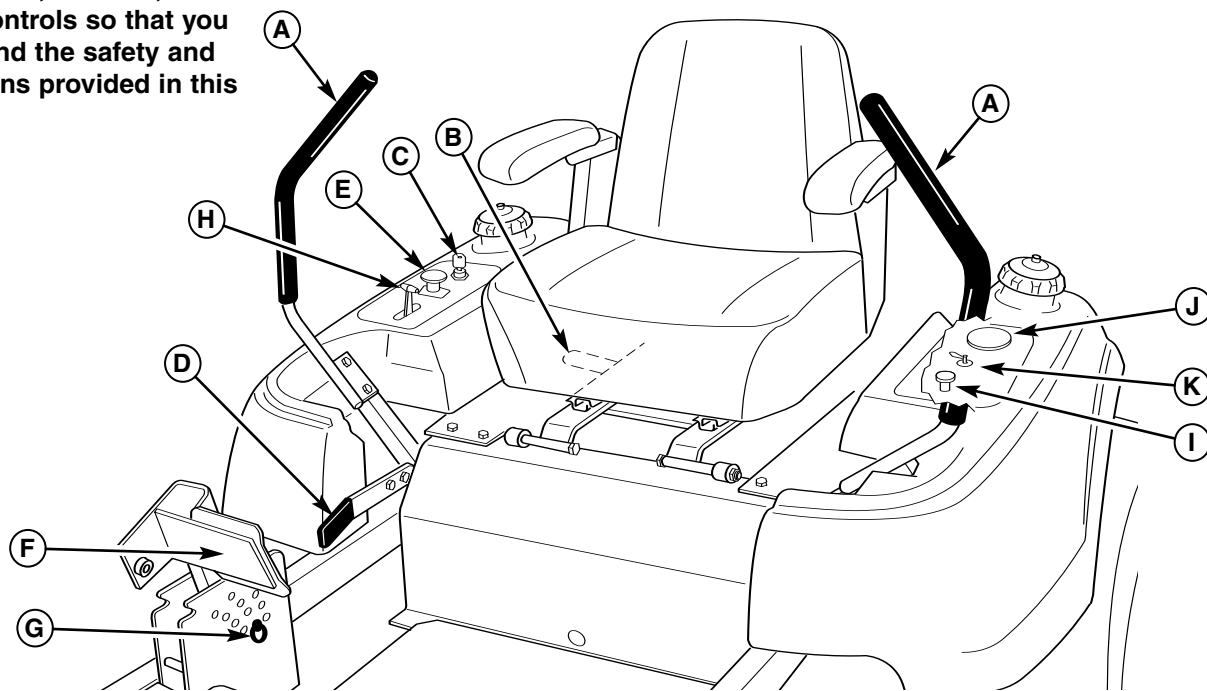

Figure 1. Control Locations
2. **NOTE: A warm engine may not require choking.** Set the engine throttle control (H, Figure 1) to FAST throttle position. Then fully close the choke (I, Figure 1) by pulling the knob OUT fully.
3. Insert the key into the ignition switch (K, Figure 1) and turn it to START.
1. Returning the ground speed control levers (A, Figure 1) to the middle position will stop tractor movement. Pivot the levers outward and lock them in NEUTRAL.
2. Disengage the PTO by pushing down on the PTO switch (E, Figure 1).
3. Engage the parking brake by pulling the handle (D, Figure 1) up until it locks into position.
4. Move the throttle control (H, Figure 1) to mid-throttle position and turn the ignition key to OFF. Remove the key.